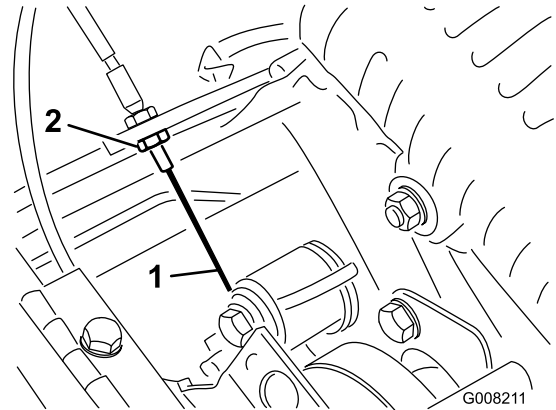

Figure 41
3. To increase the cable tension, loosen the front cable jam nut and tighten the back cable jam nut (Figure 41) until a force of 7 to 9 lb is required to engage the traction control. Measure the force at the control knob.